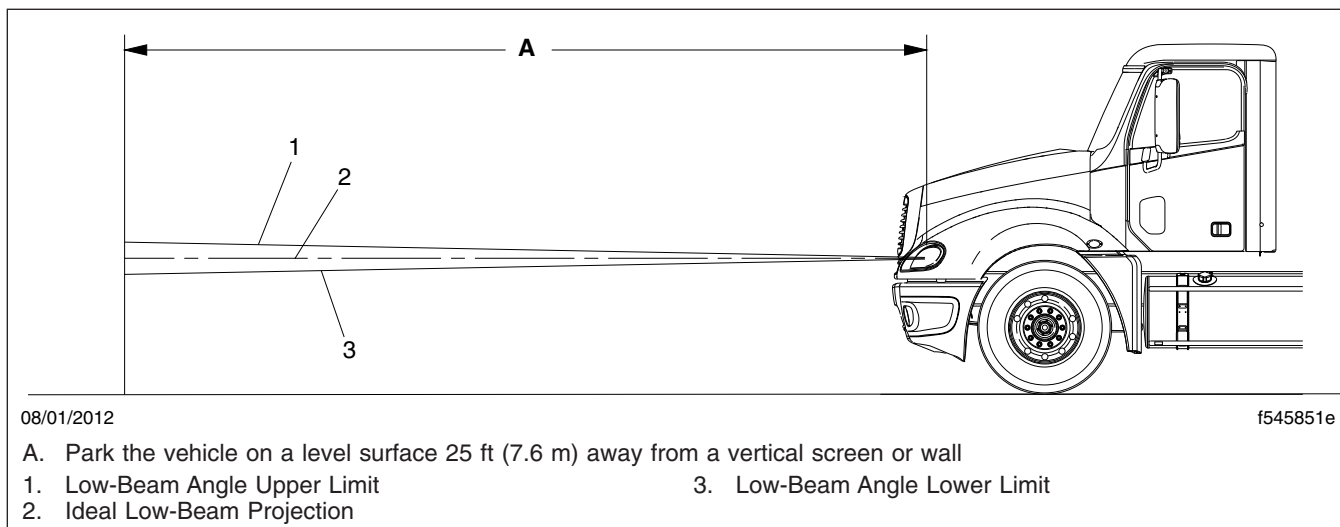

Fig. 14.2, Vertical Low-Beam Headlight Variation Limits
5. Identify the center of each beam projection by marking the area of brightest intensity on the wall. The area of brightest intensity should fall on or very near the marks made during step 3. See **Fig. 14.2**.